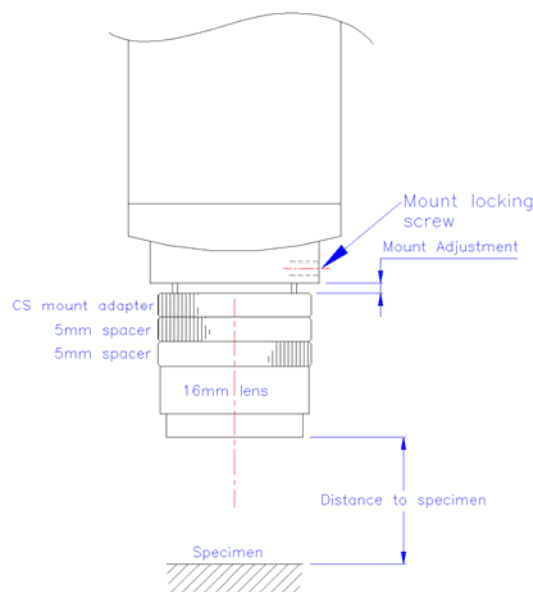

Figure 5 Camera adjustments
Table 1 should be used in conjunction with figure 5.
* This value is not the distance of the front of the lens to the specimen (as shown in figure 5 below), this value will be dependent upon the actual lens used.
Refer to figure 5.